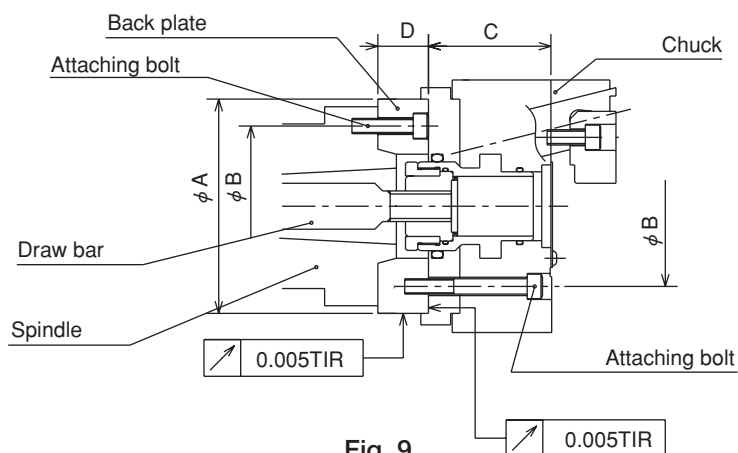

Fig. 9
- Fig.9 shows the case of the JIS short taper standard.